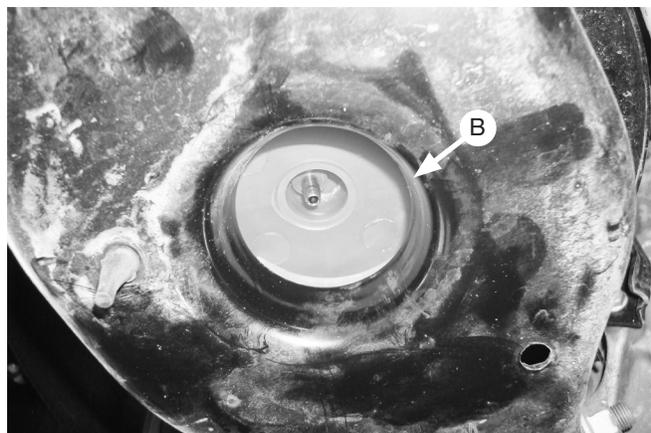

Fig. 4
4. Push the cylinder up to the top of the coil spring and insert the protector (B) through the side of the coil spring and under the cylinder. Center the cylinder stem in the center hole of the lower protector and push the cylinder down to the bottom of the coil spring (Fig. 4).